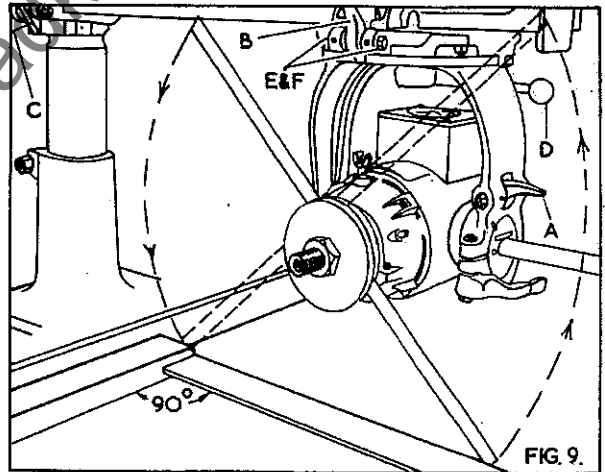
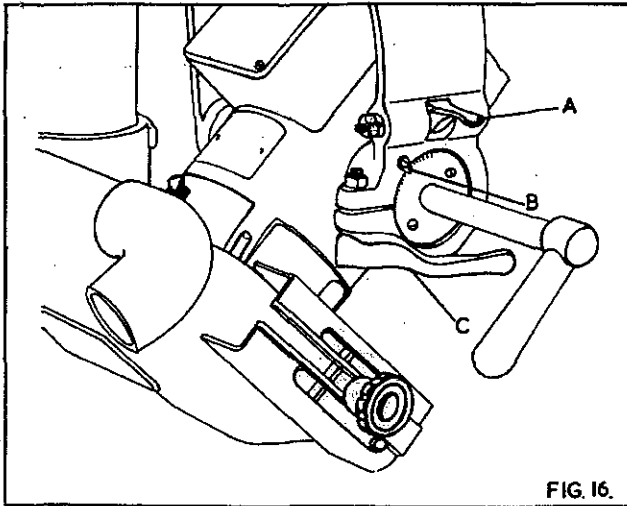

FIG. 9.
FIG. 16.
2. Ensure the motor locating latch "A" in Fig. 9, the stirrup locating latch "B" and the carriage locking screw "C" in Fig. 16 is securely locked.
4. Lift arm locating latch "C" in Fig. 9 and swing arm to extreme ends of the table checking that clearance between rod and table remains constant.
To check this alignment place a steel rule or some other similar straight edge between the saw flanges as shown in Fig. 9 and a steel square against the fence. Rotate the steel rule from front to rear. If adjustment is necessary loosen stirrup locking handle "D", and disengage the stirrup locating latch "B", set correctly, then relock in position with lever "D". Adjust the aerotight nuts "E" and hexagon locknuts "F" until the latch "B" locates accurately in the slot in the stirrup.
The motor swivels within the stirrup through  $90^{\circ}$ . The principle angles are located by a tapered latch "A" in Fig. 16. The angle of cant is clearly shown on a graduated scale by the pointer "B". The motor can be locked at any angle by the locking lever "C".